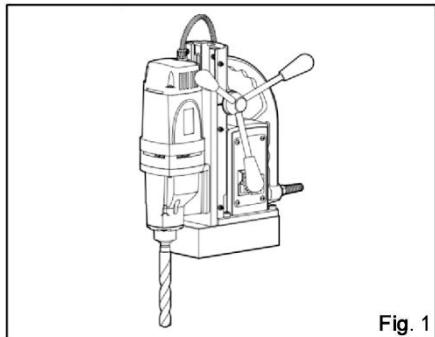

Fig. 1
1. Always use sharp drill bit. Twist drill bit can be installed on the drive spindle directly. (**Fig.1**)